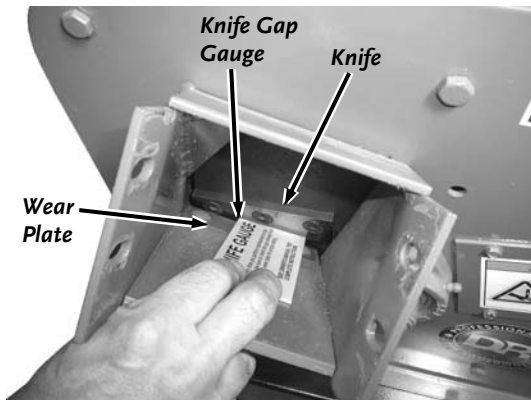

Figure 28
3. Slide the Knife Gap Gauge in between the Knife and Wear Plate to check the clearance (**Figure 28**).
2. Take the Gap Gauge and slide it between the Knife and Wear Plate (**Figure 28**). Adjust the Wear Plate against the Knife Gauge and tighten the outside